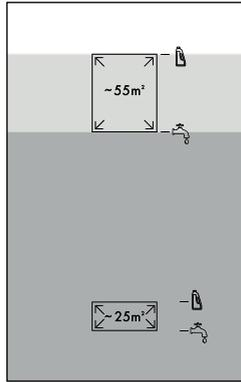

Fig. 9
- ◆ For large areas  (up to 55 m²), fill the fresh water tank **11** with tap water or distilled water up to the third fill level marking  (see fig. 9).
- ◆ For large areas  (up to 55 m²), fill the fresh water tank **11** with cleaning solution up to the fourth fill level marking  (see fig. 9).